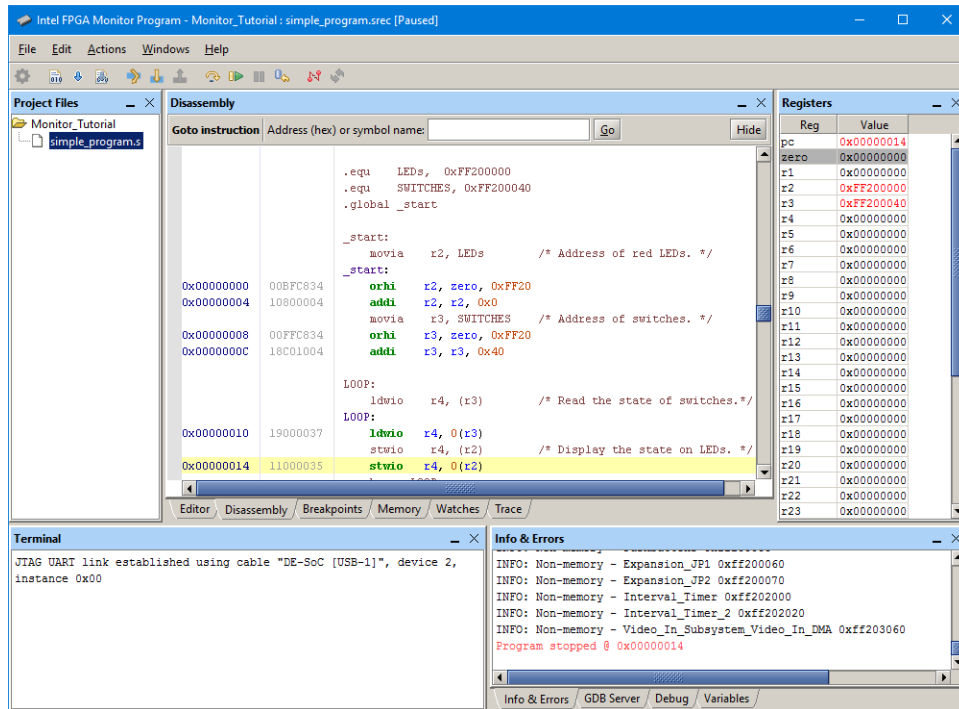

Figure 15. The Monitor Program display after the program has been stopped.
Figure 15 shows an example of what the display may look like when the program is halted by using the **Stop** command. The display highlights in yellow the next program instruction to be executed, which is at address
In Figure 15, the Disassembly window shows the machine instructions for our program. The leftmost column in the window gives the memory addresses, the middle column displays the machine code at these addresses, and the rightmost column shows both the original source code for the instruction, in a brown color, and the disassembled view of the machine code that is stored in memory, in a green color.
1. In the Disassembly window, scroll to display the instruction that will have the breakpoint. For example, in the window in Figure 15 scroll to the Branch instruction at address 0x00000018.